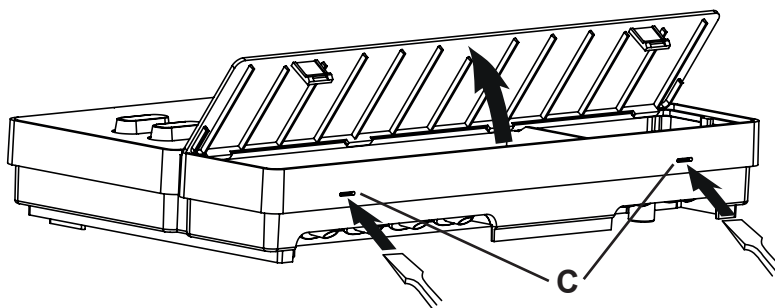

Fig. 3 Removing the cover from the housing
2. Press the clip locks **C** in lightly using a screwdriver and remove the cover from the housing (see **Fig. 3**).